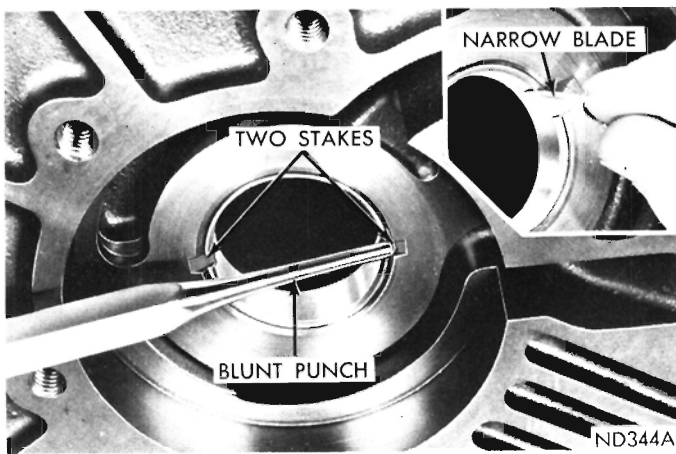

Fig. 60—Staking Pump Bushing (A-904)
(6) Drive bushing into housing until tool bottoms in the pump cavity. Be careful not to cock tool during installation.
(7) Stake bushing in place by using a blunt punch or similar tool (Fig. 60). A gentle tap at each stake slot location will suffice.
(8) Using a narrow-bladed knife or similar tool, remove high points or burrs around staked area (Fig. 60). Do not use a file or similar tool that will remove more metal than is necessary.